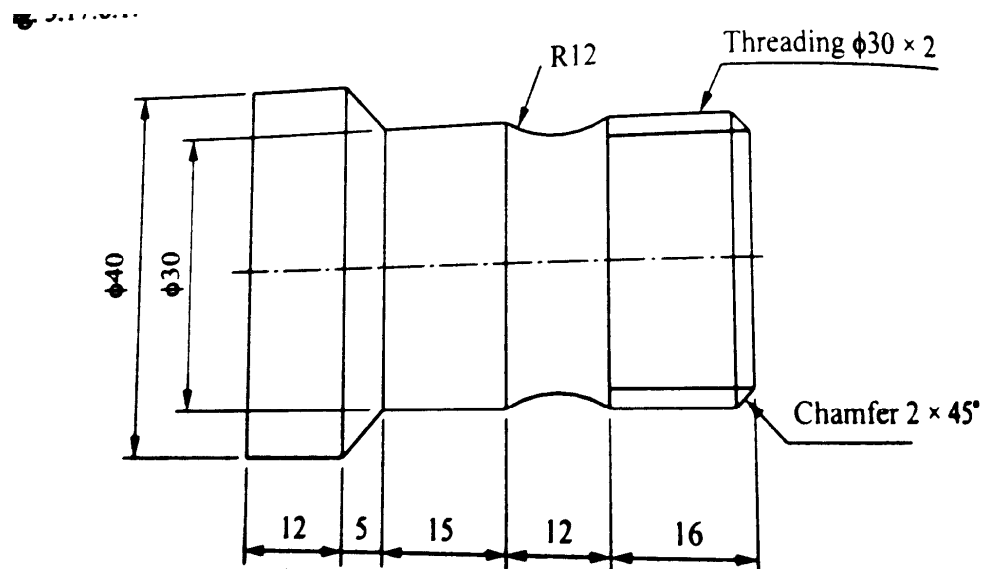

Fig.2
- Q.5 (a)** Write a complete APT program for machining the component as shown in fig.2 **10**